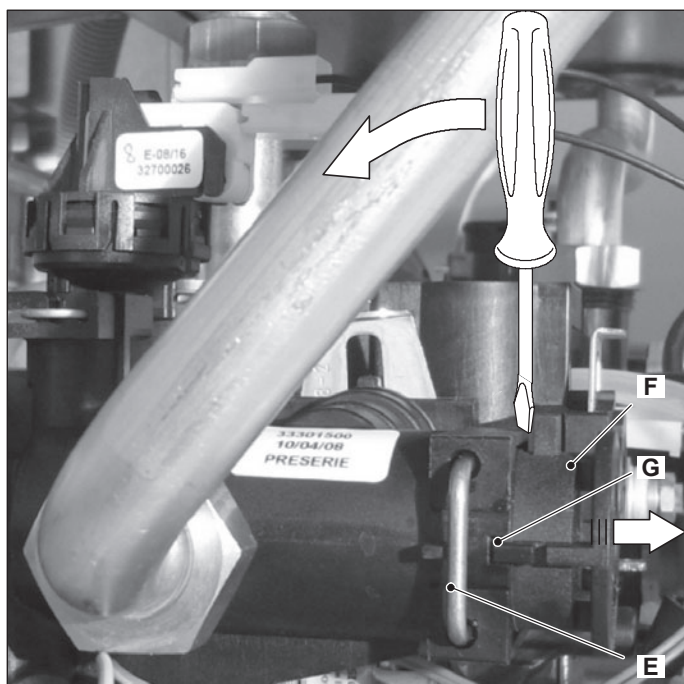

Figure 9.5
- 4 Remove the fixing spring E (Figure 9.5)
- 5 Remove the tree way diverter valve F by levering with a screwdriver in as shown in Figure 9.5.
**Warning:** When reassembling the tree way diverter valve be sure that the tree way diverter is correctly oriented by matching the reference G with the notch of the water group Figure 9.5.